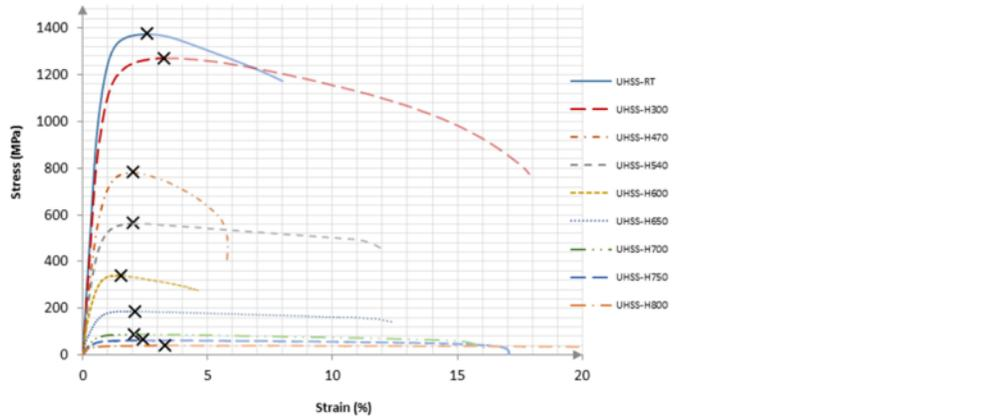

Figure 3. Stress-strain curves for UHSS specimens at elevated temperatures ranging from 300°C to 800 °C
Figure 3 shows the elevated temperature stress- strain curves resulting from the heat-up tests. The onset of necking is signified by a black cross sign (X) on the plotted curves. In this study, the UHSS specimen tested at elevated temperature T is shown as UHSS-HT, where H represents the Heat-up test. Also, the UHSS-RT represents the stress-strain curve of the virgin UHSS at room temperature (RT). As illustrated in Figure 3, the strength of UHSS is reduced as the maximum temperature increases. In addition, a considerable drop in strength is observed when the temperature exceeds 600°C.